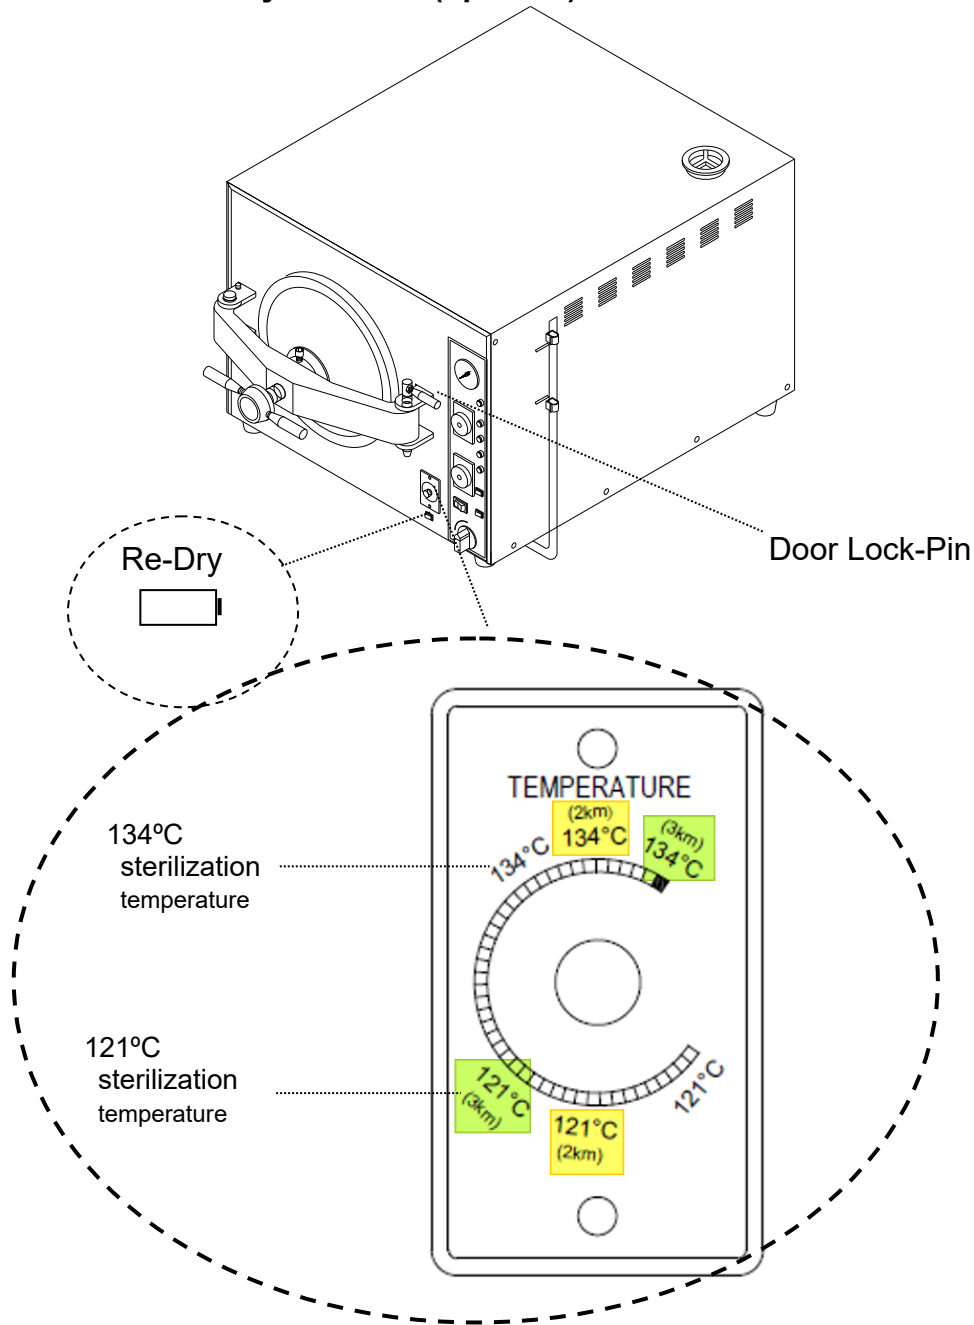

Figure 15
1. If the altitude is over 3000 meters, please turn the sterilization knob to 3km, see Figure 15
2. If the altitude is over 2000 meters, please turn the sterilization knob to 2km, see Figure 15.
3. If the altitude is below 2000 meters, please turn the sterilization knob to the standard position (not highlight marked), see Figure 15.